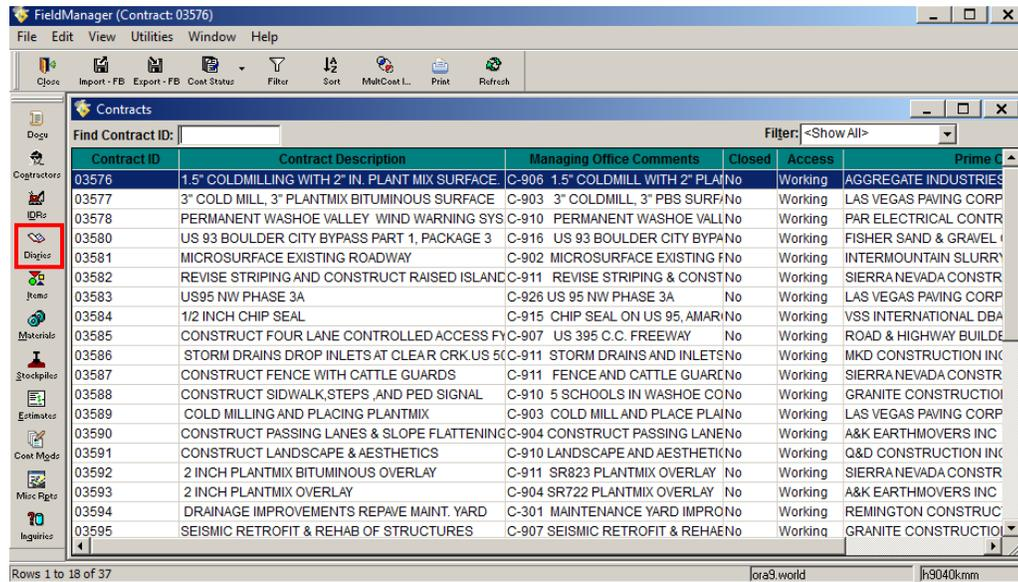
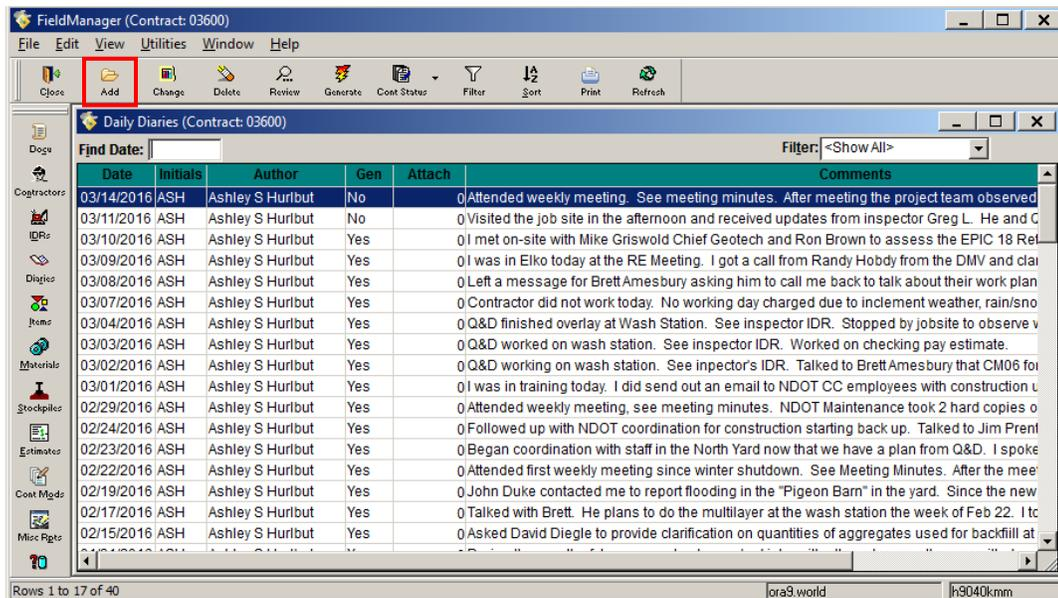
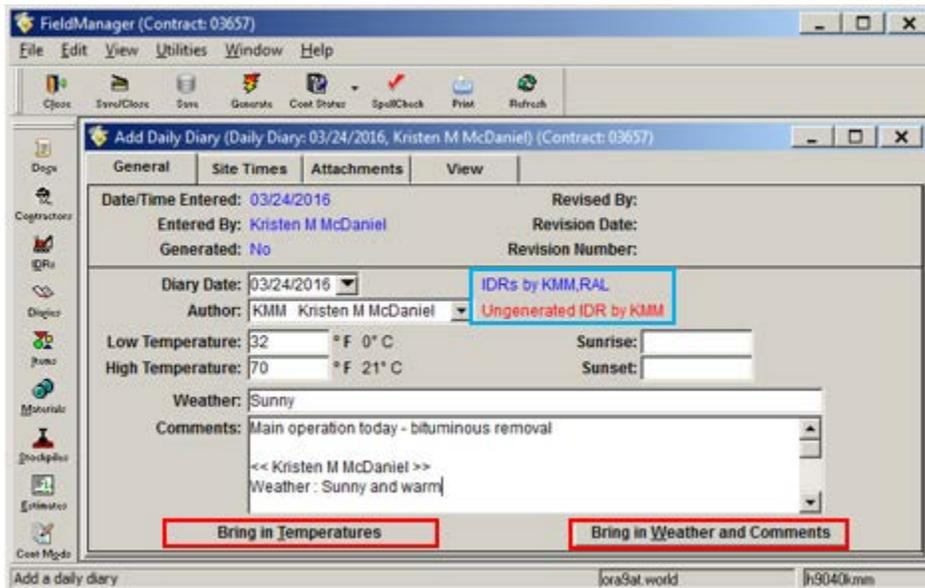

Figure 8-1 - FieldManager Contracts List Window
Figure 8-2. Daily Diaries List Window
Figure 8-3. Add Daily Diary – General Tab
Log into FieldManager through Citrix (for more information on logging on to FieldManager, see Chapter/Section 2.1 in this user guide). The Contracts list window opens (Figure 8-1).
1. Select desired contract in the Contracts list window, and click **Diaries** on the Application Toolbar (Figure 8-1). The Daily Diaries list window opens (Figure 8-2).
2. Click **Add** in the Window Toolbar (Figure 8-2). The Add IDR window opens with the General tab displayed (Figure 8-3).
1. To complete the General tab (Figure 8-3) enter the following information in the appropriate fields:
- **Note:** A notation in blue print next to the Diary Date will indicate if there are generated IDRs for the corresponding date of the diary. If there is a notation in red print next to the Author field, it will list any un-generated IDRs for the Diary Date (see blue box in Figure 8-3).